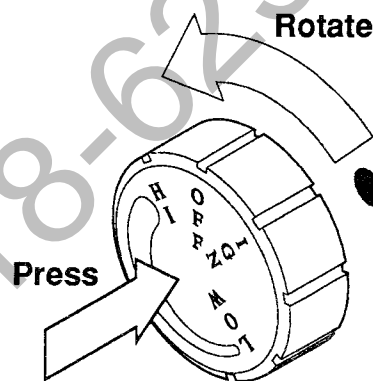

FIGURE 6. Control Knob
5. Turn the control knob counterclockwise  to the IGN position (FIGURE 6). Press in control knob for 5 seconds.